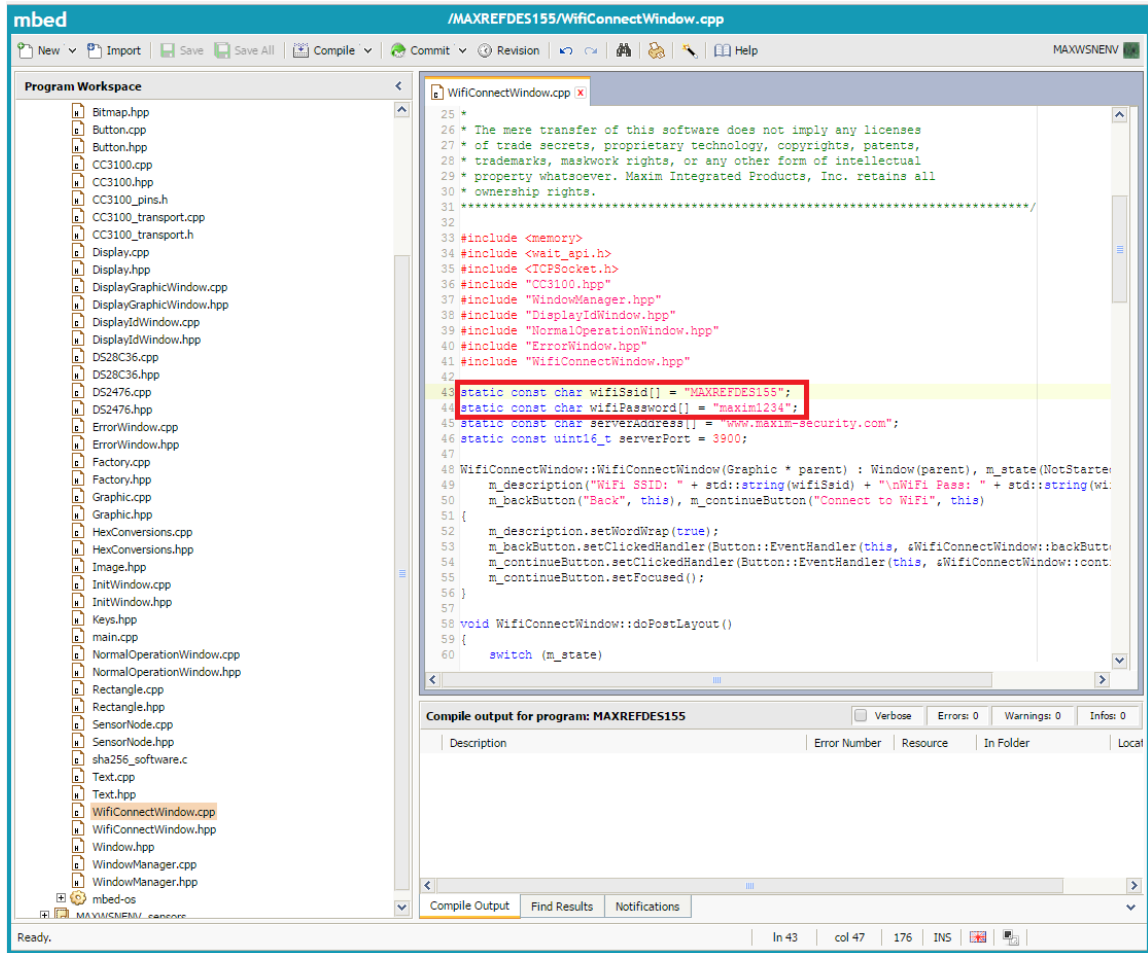

Figure 5. Editing the Wi-Fi SSID and password fields for personal hotspot.
4. Edit the Wi-Fi SSID and password fields in **WifiConnectWindow.cpp** with the values for a personal hotspot (Figure 5).
7. Provide the internet hotspot setup with the network name and network password with the values created for **Figure 5**. Make sure to place the hotspot in reasonable proximity to the mbed.